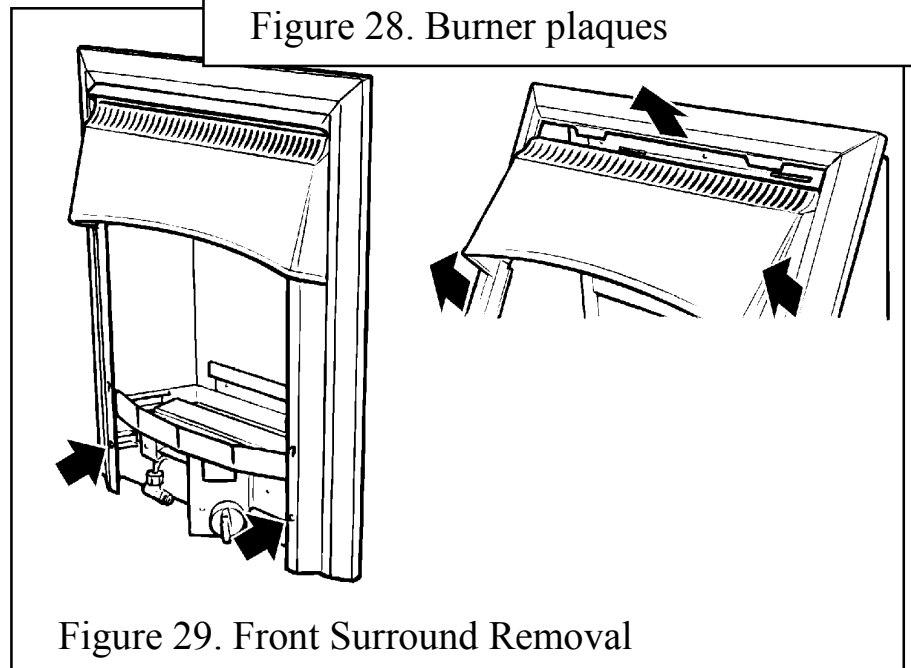

Figure 29. Front Surround Removal
3. Remove the two screws securing the bottom of the front surround to the sides of the convection box. Raise the front surround to allow the retaining lugs at the top to clear the slots in the convection box hood and then lift clear. See figure 29.